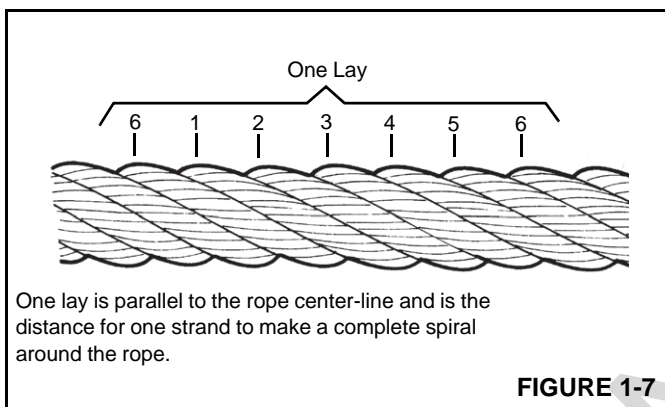

FIGURE 1-7
- In running ropes, six randomly distributed broken wires in one lay or three broken wires in one strand in one lay (Figure 1-7).